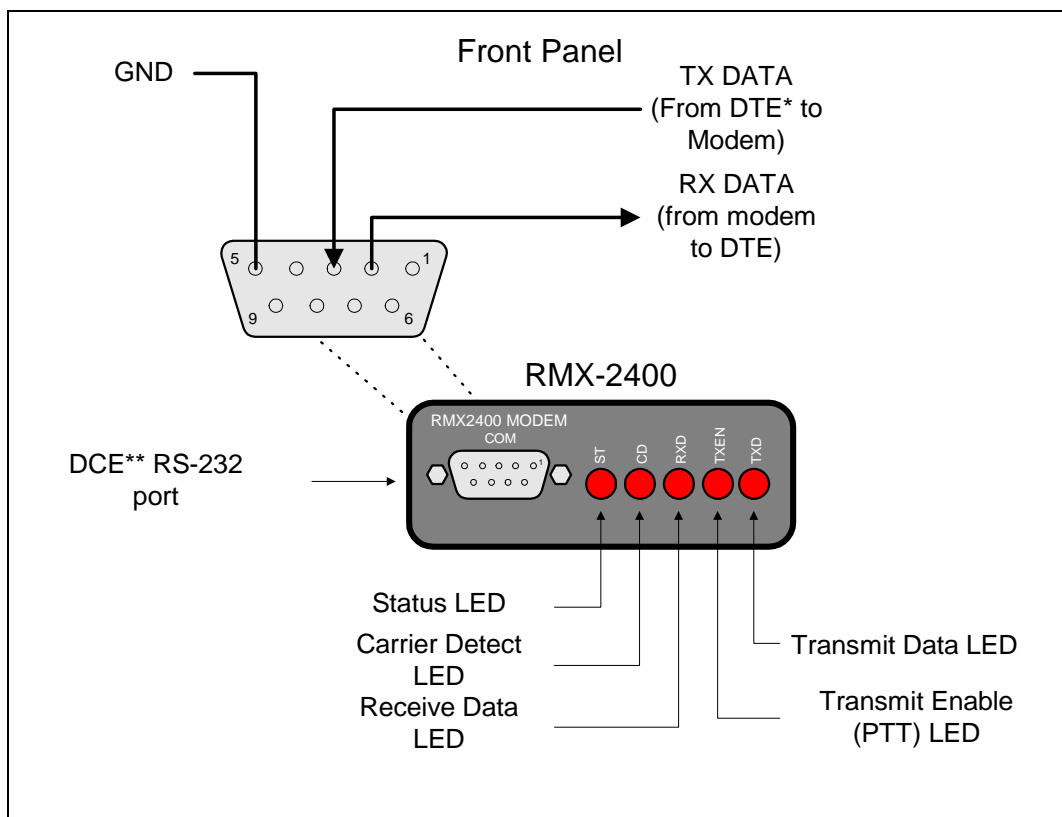

Figure 2
2. Straight Through Modem Cable. (See Figure 2).